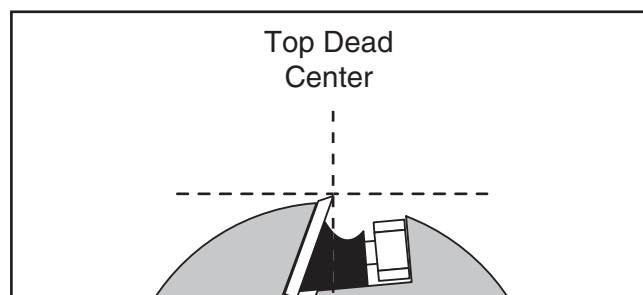

Figure 66. Knife at top dead center.
4. Use motor pulley to rotate cutterhead until one knife is at top dead center (its highest point during rotation), as illustrated in **Figures 66–67**.